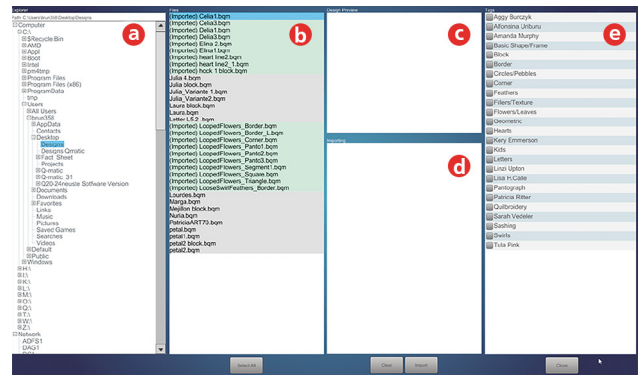

Fig. 26
2. Open the Design Library in the Menu Bar and select Import Design. A secondary screen with four columns will open (Fig. 26).